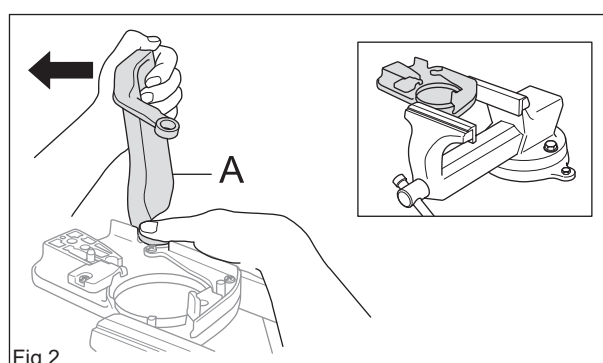

Fig 2
Release the brake by using the saw's front hand guard (A) as a tool. Mesh with the brake and tighten anti-clockwise until the brake is activated. (see figure 2)